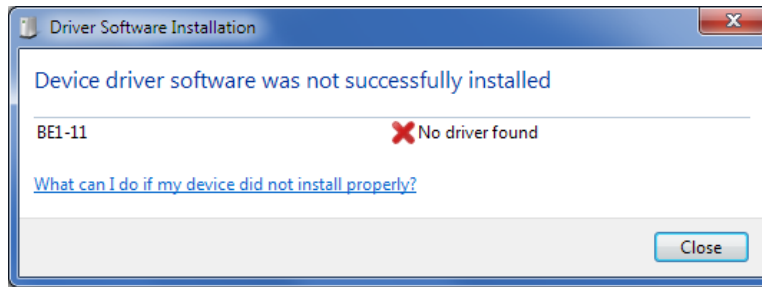

Figure 73-1. Driver Software Installation
- Step 1. If the message in Figure 73-1 is shown, close all programs and restart the computer.